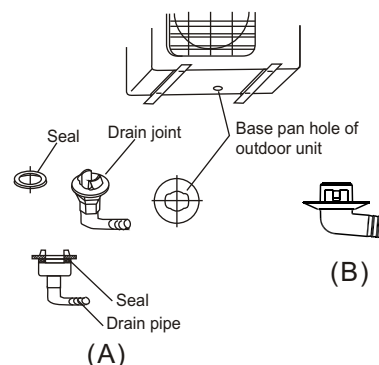

Fig.15
For the drain joint with the seal (Fig.15 (A)), first fit the seal onto the drain joint, then insert the drain joint into the base pan hole of outdoor unit, rotate  $90^\circ$  to securely assemble them. To install drain joint as shown in Fig.15 (B), insert the drain joint into the base pan hole of outdoor unit until it remains fixed with a clicking sound. Connecting the drain joint with an extension drain hose (Locally purchased), in case of the water draining off the outdoor unit during the heating mode.